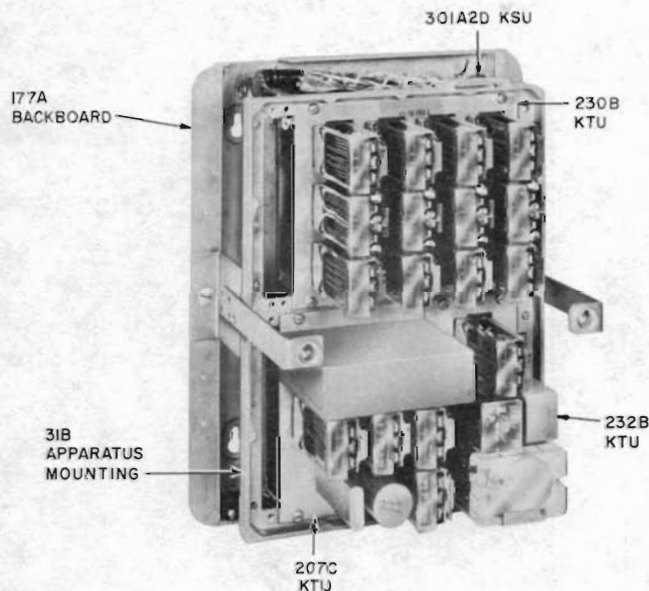

Fig. 2—301A2D KSU, Cover Removed
2.08 Fig. 2 shows a 301A2D KSU arranged for wall mounting.